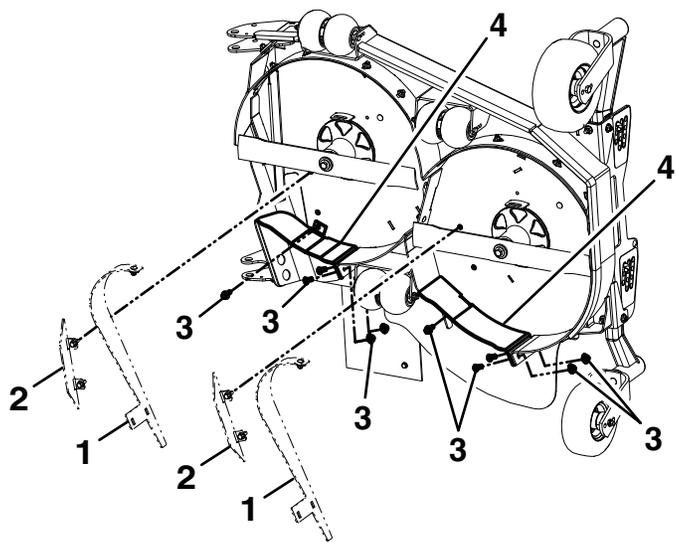

Figure 5
6. On the LH wing, remove and retain the discharge fin baffle, dogleg baffle, and all mounting hardware (see Figure 5). Install the LH block baffles using the hardware retained; some hardware is installed into threaded inserts. Place remaining unused hardware back in the original mounting locations.